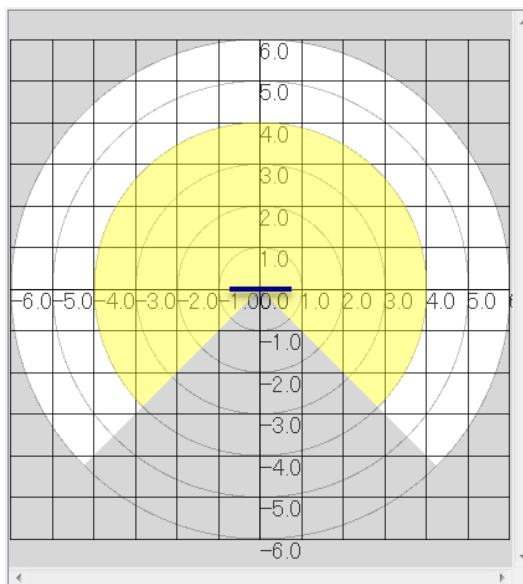

Fig 4.2.1.2.2 Default position of dependent offset bar
- It is possible to delete the offset value of the point by right clicking of the mouse when the offset bar is selected, or press delete or the backspace key on the keyboard. The offset bar as shown in Fig.4.2.1.2.2 will be displayed in the default position of the coordinate origin.